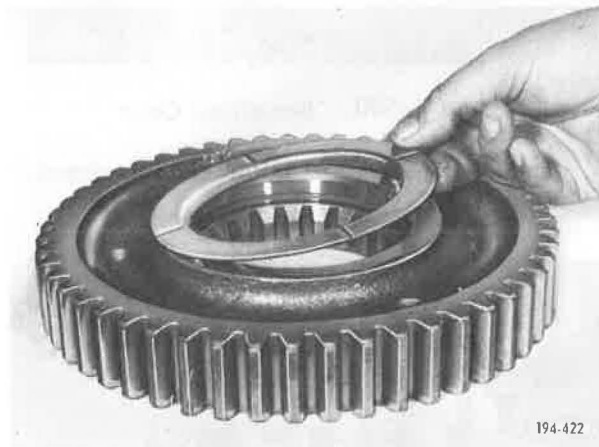

Figure 5-518. Installing Thrust Washer
22. Apply a light coat of grease to front face of second speed gear, and then place second speed gear thrust washer onto front face of gear. Grease will hold washer in position during installation. See Figure 5-518.